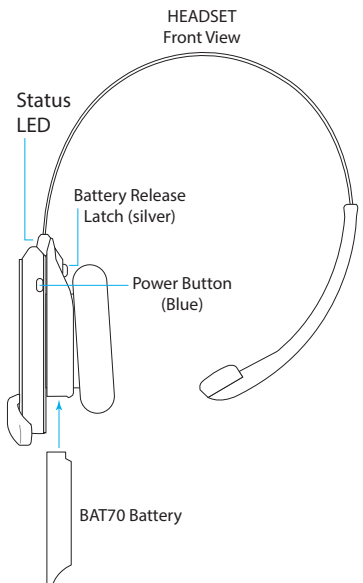

Fig. 3.2
1. Install a charged BAT70 battery into the headset and press the power button to turn it on (see Fig. 3.2). The LEDs flash green and red.